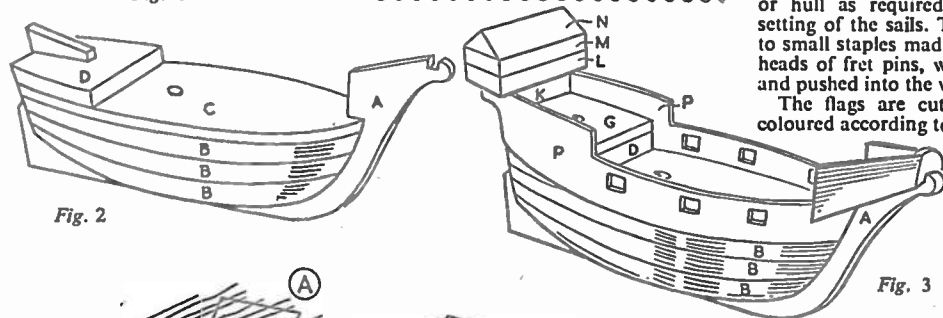

Fig. 2
are glued on either side of the keel A, and this done, the deck (C) and piece D can be added. The model should now appear as in Fig. 2.